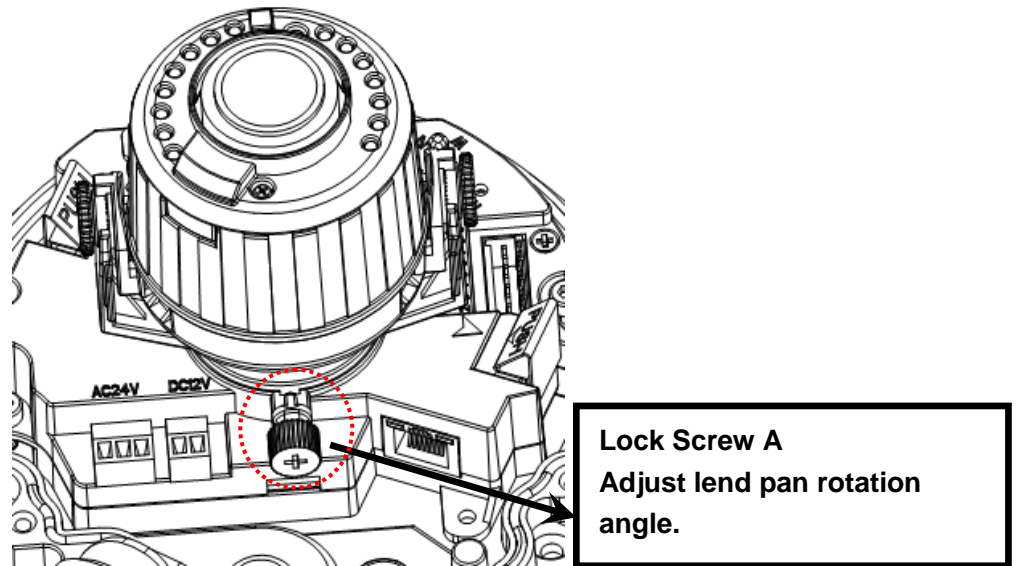
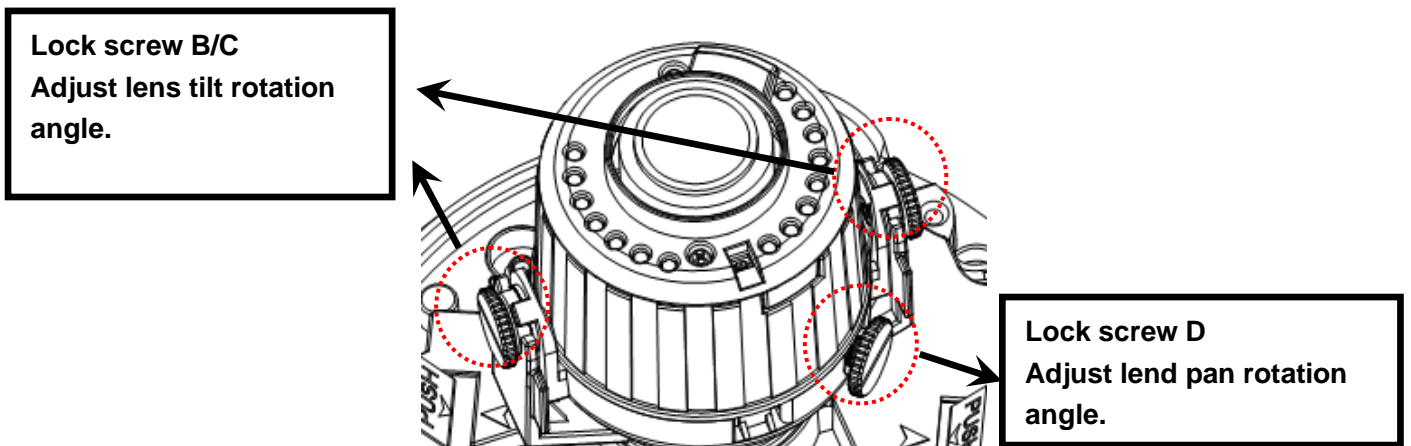

Figure 3-6
Figure 3-7
b) Lens pan rotation angle setup. Please refer to Figure 3-6 to unfasten the lock screw A and adjust the pan monitor angle to the proper position. Then fix the lock screw A. The pan angle ranges from 0°~+350°.
c). Lens tilt rotation angle. Please refer to Figure 3-7 to unfasten the lock screw B and lock screw C and adjust the tilt monitor angle to the proper position. Then fix the lock screw B and lock screw C. The tilt angle ranges from -23° ~ $+73^{\circ}$.
d). Image pan rotation angle setup. Please refer to Figure 3-7 to turn lock screw D to adjust the video pan angle. Then fix the lock screw B and C. The video pan angle ranges from 0° ~ $+350^{\circ}$.
Please note Figure 3-6 and Figure 3-7 is based on the IR motorized zoom camera. For the IR manual zoom camera and non-IR series product, the lock screw position and the lens angle adjustment are the same.